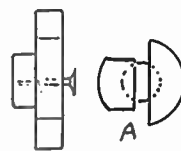

Fig. 1
Attaching the ply panels around the region of the stem will need more careful workmanship. Some designs favour the amateur in using a chine member which is cut out with a right-angled trough, as in Fig. 1. This means that the top and bottom ply panels can be fitted separately, trimmed down flush after they are fitted and the notch
mild steel screw is employed as the cutter. The screw is driven into an octagonal block of thick wood. A smaller piece of wood is glued to the back of this block, as in Fig. 1, to make up sufficient thickness for the screw to enter. An enlarged view of the head of the screw is given at (A), showing how to file it to get the best results. The inner face of the screw head, where it cuts the wood, should be filed concave with a round file.